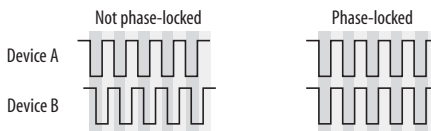

Figure 3-8: When transferring audio, two devices must have phase-locked audio clocks to prevent clicks, pops or other artifacts.
- Synchronizing the 828mkII with other digital audio devices so that their digital audio clocks are *phase-locked* (as shown in Figure 3-8)